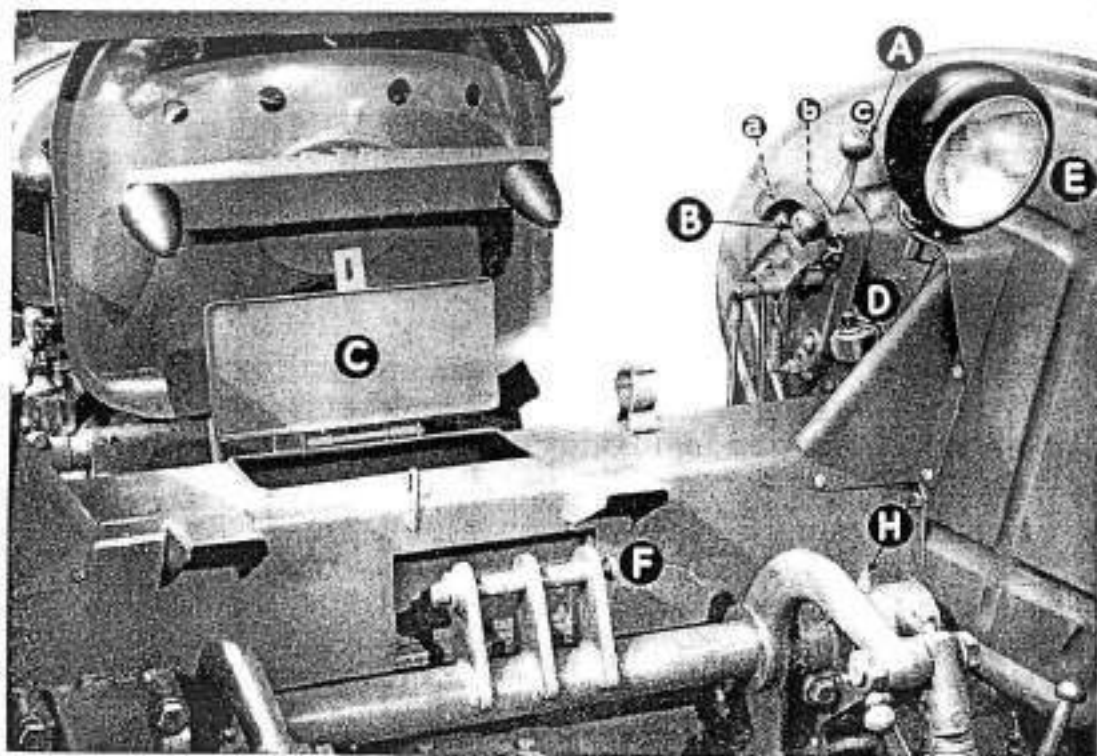

FIG. 6
#### CHANGE OVER SWITCH (D, Fig. 6)
## POWER LIFT CONTROL (A, Fig. 6)
A three position control lever is fitted with the Mark II hydraulic system. Referring to Fig. 6 :—
Hand Lever B, Fig. 6, fitted at the hydraulic lift control.
1. Move the lever B, Fig. 6, forwards to the notch. This action also places the hydraulic lift control lever in the forward position.